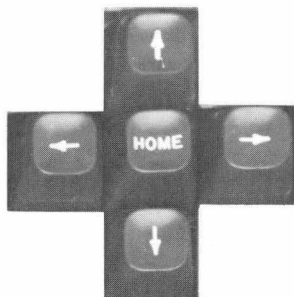

Figure 6. Cursor Control Keys.
**Cursor Control Keys (Figure 6)**